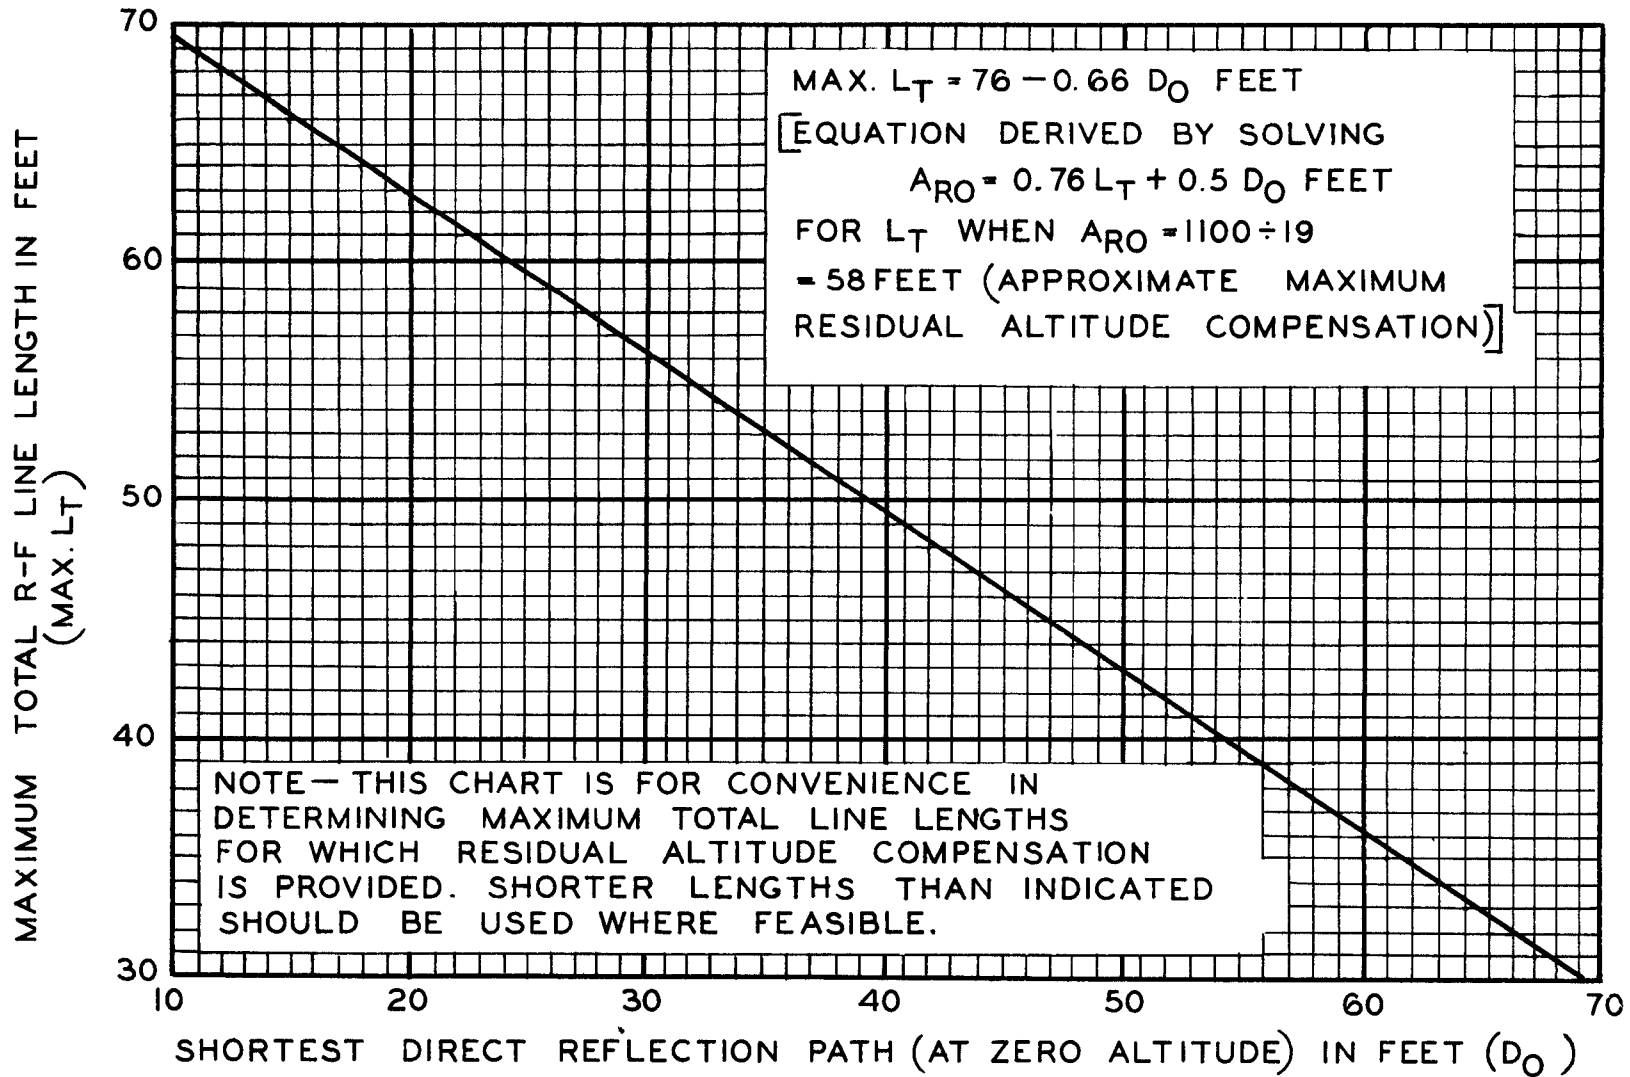

Figure 2-5. Maximum R-F Line Length for Various Reflection Paths
(1) Cut two lengths of Radio Frequency Cable RG-8/U as required for transmitting and receiving antenna cables. The total of these two lengths should not exceed 60 feet, nor should it exceed the maximum length given in figure 2-5 for the particular shortest direct deflection path involved. (Refer to par.3g, this sec.) Make sure that the cable which normally will be used to connect the receiving antenna to the "RECEIVER ANTENNA" socket on the receiver and transmitter unit is long enough so that it can be connected to the "TRANSMITTER ANTENNA" socket for test purposes.